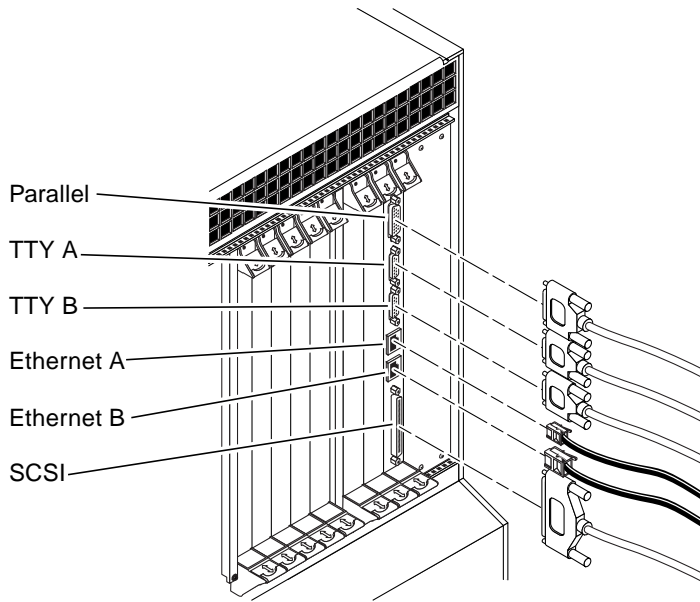

FIGURE 4-8 Connectors on the CPU Rear Transition Card (Netra ct 800 Server)
- CPU rear transition card, Netra ct 800 server—FIGURE 4-8